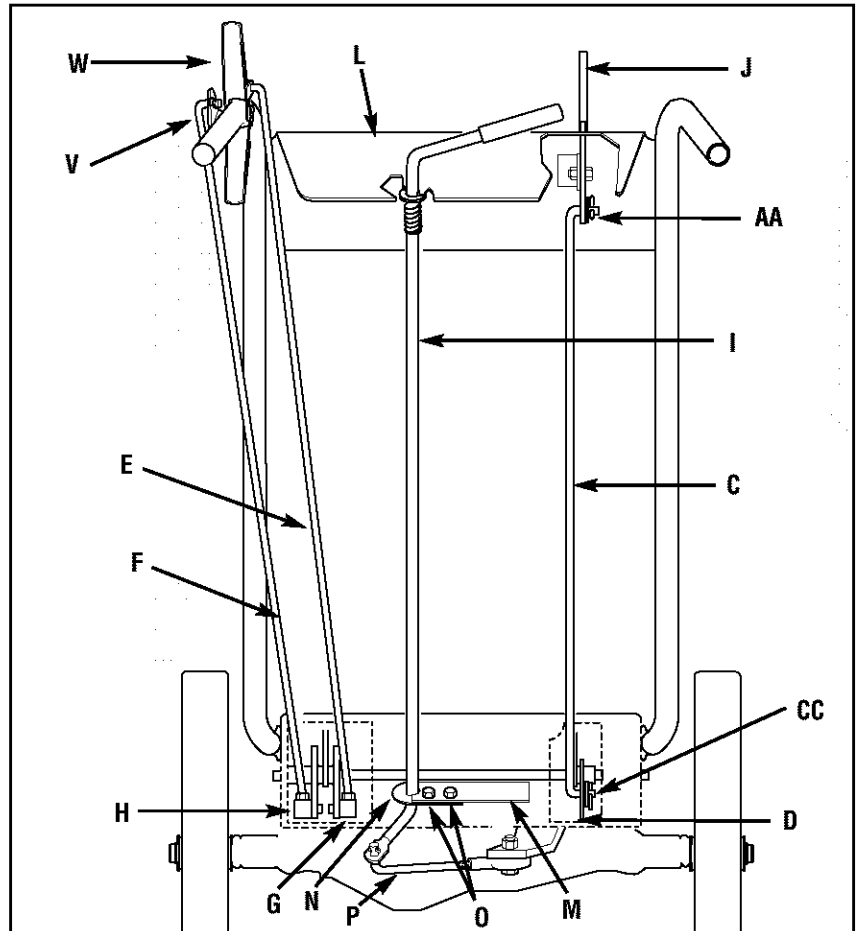
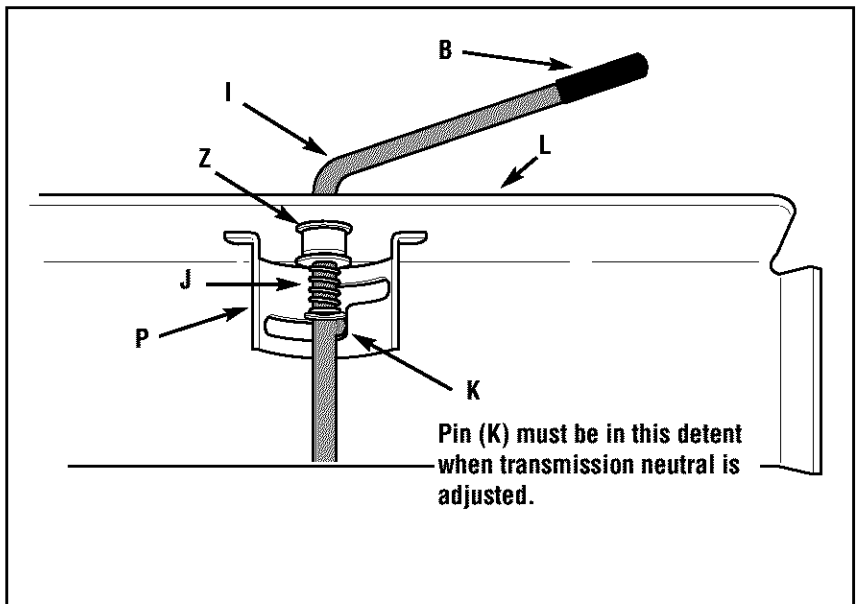
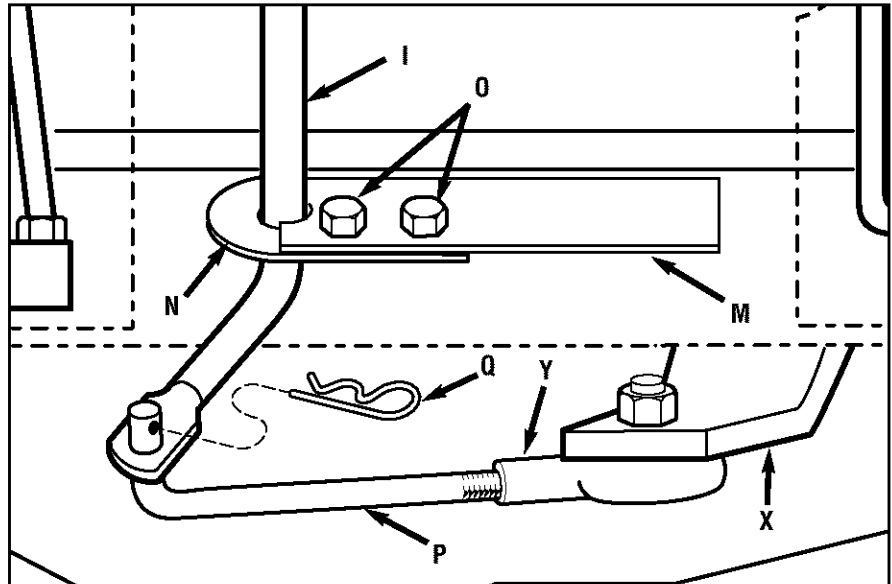

Figure 2-7: Rear view of control rods.
Figure 2-8: Detail - Gear Select Lever in Neutral (N) position.
Figure 2-9: Detail – Transmission Neutral Adjustment.
1. Locate the blade drive control rod (C, Figure 2-7). Insert one end of control rod into blade drive bracket (D, Figure 2-7). Add one 5/16" washer and attach with hairpin clip (CC).
2. Insert the other end of rod into bottom end of Blade Drive Control lever (J, Figure 2-7). Add one 5/16" washer and attach with hairpin clip (AA).
**NOTE:** The retaining plate (N, Figure 2-7) mentioned in the following steps is secured to the rear of the mower with two screws (O, Figure 2-7) and 1/4"-20 lock-nuts. Remove the retaining plate and save it, along with the two screws, before proceeding with assembly.
1. Remove the vinyl grip (B, Figure 2-8) from the gear select lever (I). Place the wood edge against the edge of the grip and slowly pull off the grip.
2. Insert nylon bushing (Z, Figure 2-8) up into console (L).
3. Slide spring and washers (J) down onto gear select lever.
4. Insert gear select lever (I) up through nylon bushing (Z) in handlebar console (L). Guide pin (K) on gear select lever into groove in shift quadrant (P).
5. Hold lower part of gear select lever (I, Figure 2-9) against bracket (M). Position retaining plate (N), removed earlier, as shown in Figure 2-9 (plate below bracket). Secure plate with two 1/4"-20 x 1/2" screws (O) and 1/4"-20 locknuts removed earlier.
6. Slide grip (B, Figure 2-8) back onto gear select lever (I).
7. Rotate gear select lever (I, Figures 2-8 & 2-9) clockwise until spur (K - short rod) on gear select rod stops in the neutral position detent on the shift pattern quadrant (Figure 2-8).
8. Move shift arm (X, Figure 2-9) from side to side as necessary into each transmission gear detent until transmission is in neutral.
NOTE: Moving shift arm (X) all the way to the left, and then one notch back to the right, should put transmission into neutral. When transmission is in neutral, unit will move freely when pushed while holding the Operator Presence Control lever (W, Figure 2-7) down. If transmission is NOT in neutral, there will be a slight drag on the wheels when pushing unit.
9. When shift arm (X) is in neutral position, rotate shift link (P) toward end of gear select lever rod (I). Adjust length of shift link (P) as necessary to fit into hole in bottom of gear select lever (I).
NOTE: Pin (K) on Gear Select Lever (I) must be held in the neutral position detent on the shift quadrant (see Figure 2-8) while shift link (P, Figure 2-9) is adjusted.
10. Insert hooked end of shift link (P, Figure 2-9) into hole in bottom end of gear select lever (I) and secure with hairpin clip (Q).
11. Remove unit from shipping crate. To remove, hold down Operator Presence Control lever (W, Figure 2-7) which releases the wheel brake.
12. With unit on level ground, hold down Operator Presence Control lever (W, Figure 2-7) and push unit forward and backward. The wheels should move freely. If not, adjust length of shift link (P, Figure 2-9) as necessary.
1. Move mower to a level area. Press and hold Operator Presence Control lever (W, Figure 2-7) to move mower.